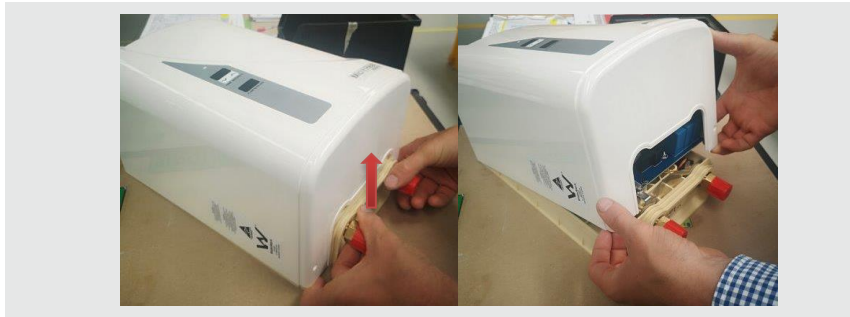

Figure 1 - CFEWH Removal of Exterior Cover
1. To remove the CFEWH Exterior Cover find a clean flat surface and place the unit on its back. Using both your thumbs and forefingers, grip the Exterior Cover firmly along the bottom of the unit, and push the cover slowly up to separate it from the Body of the unit. See Figure 1.